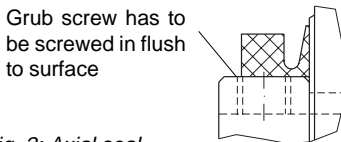

Fig. 2: Axial seal
- Make sure that the axial seal is correctly mounted ! (see fig. 2)